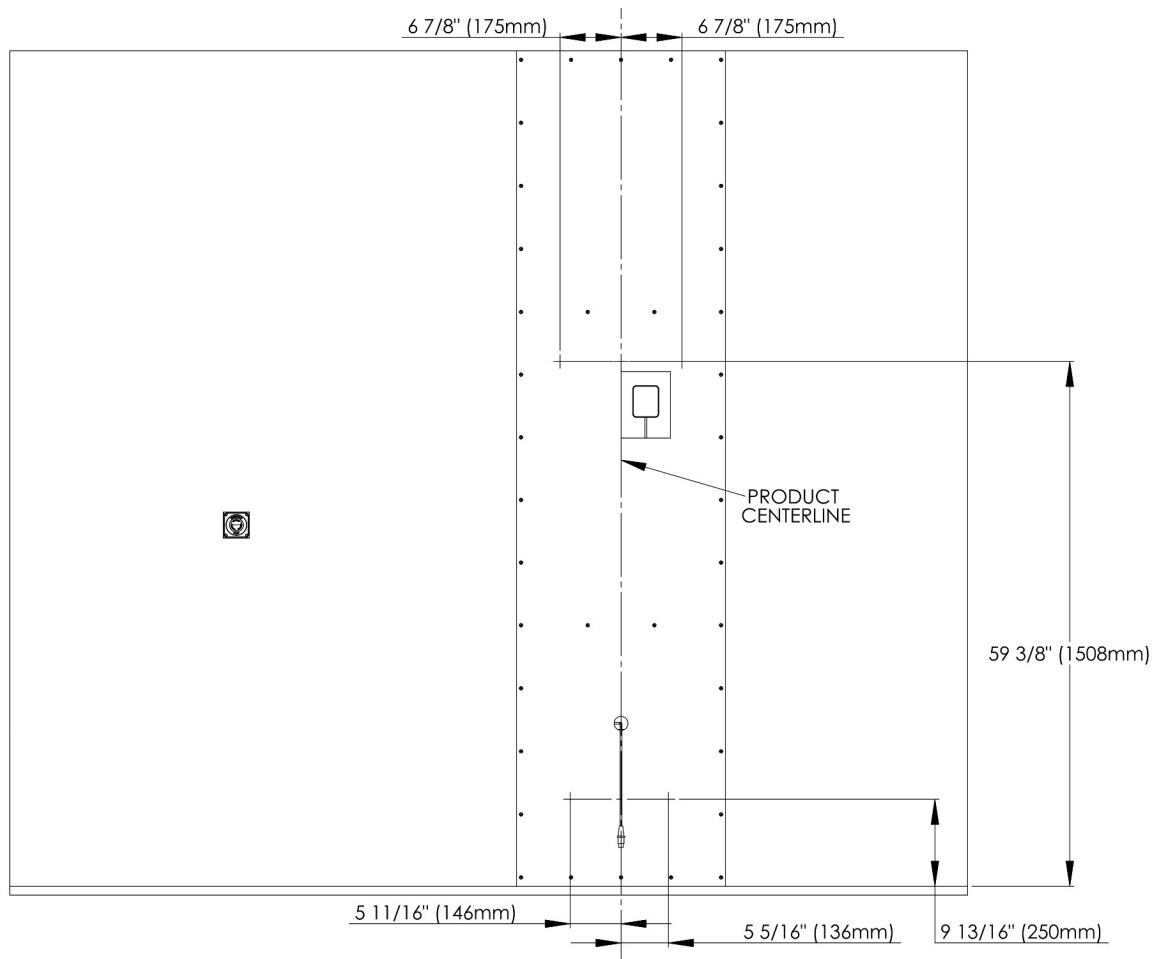

Fig 11.3 Fixing points of KB3000 SBU
- Ensure the horizontal cross members are not located at the same height as the changing station's fittings as shown in Fig 11.3 in order to avoid a future installation problem.
- The finished pre-installation should appear like Fig 11.3.